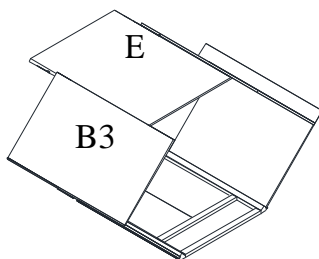
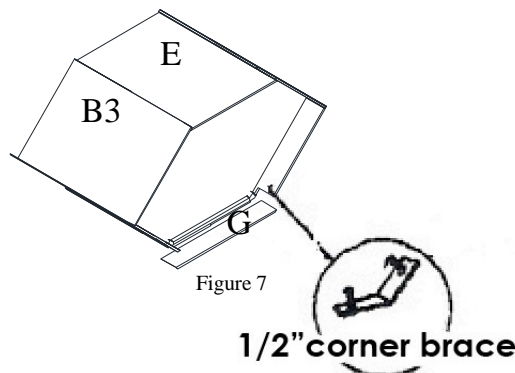

Figure 6
Figure 7
5. Installing the Back Panel and Toe Kick (Figure 6): Put the back panel(E) at rear of side panel(B3, 4)(Figure 6). Align and lock each cam lock. Install the Toe Kick(G) by locking 1/2" corner braces at both ends(Figure 7)
6. Installing the Corner Braces (Figure 6): Place the plastic corner brackets(K) on each 90 degree top corner of the cabinet and secure them with the 1/2" corner bracket screws. The 2" screws are used for connecting corner brackets and the counter top.